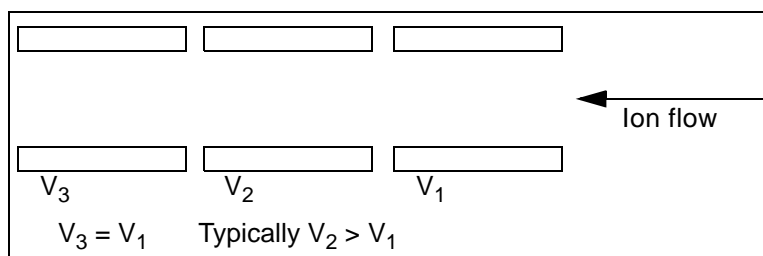
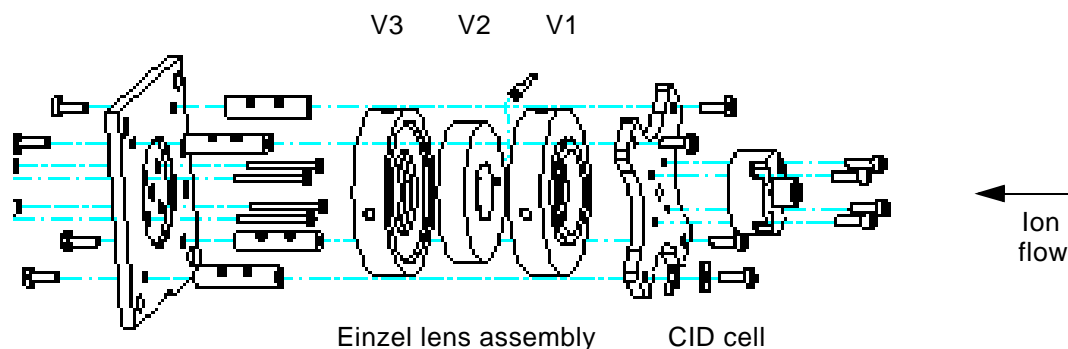

Figure 1-6 Potentials Configuration of an Einzel Lens (Cross Section)
Figure 1-7 Einzel Lens Assembly Expanded View
- **Einzel lens**—A three-element (Figure 1-6), cylindrical, electrostatic lens (Figure 1-7) designed to organize the stream of ions into a narrow, straight beam. Electrostatic lenses focus charged particles in the same way as optical lenses focus light.